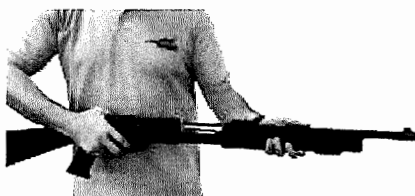

Fig. 35
13. If you're sure that the magazine-receiver nut grips Pin-1 accurately, assemble barrel and forend. (Fig. 35)